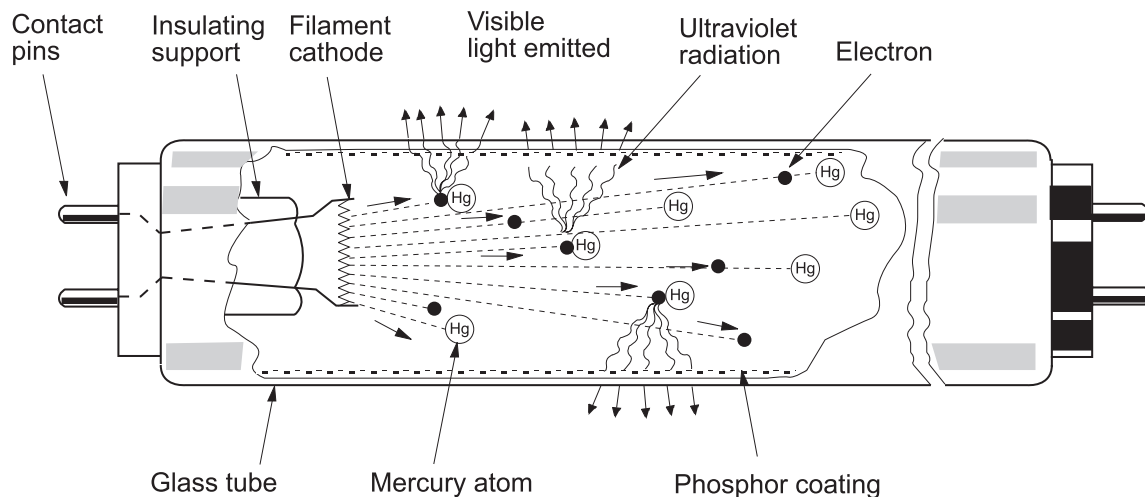

Figure 1—UV radiation is converted to visible light by a layer of phosphor powder on the inside surface of the lamp
Fluorescent light is produced by a two-stage process. First, electric current passes through a gas inside a glass tube and produces invisible ultraviolet (UV) radiation. The UV radiation is converted to visible light at the glass by a layer of phosphor powder that coats the inside surface of the fluorescent lamp. Figure 1 illustrates this process.